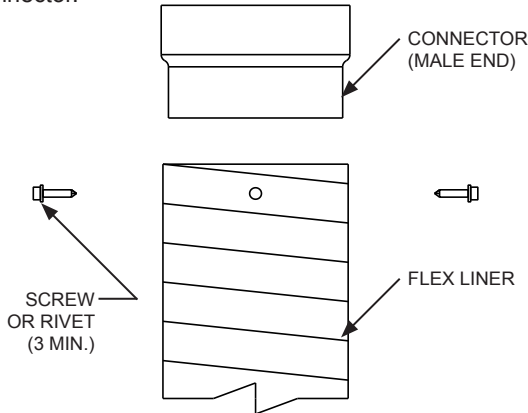

**FIG. 4**
- Step 6:** Apply foil tape along the entire length of flex liner. Unroll the mesh and slip it around the outside of insulation starting at the bottom end. Pull the mesh up the liner to the top end. Secure mesh to flex liner at bottom with a hose clamp (See FIG. 4). Pull mesh towards top end until it is tight against the insulation and secure with hose clamp.